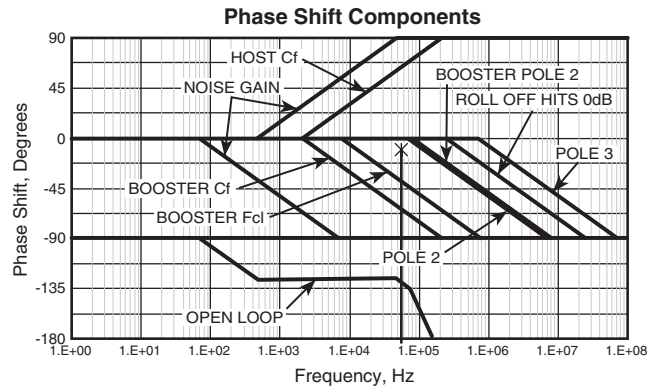

FIGURE 31.
**STEP 3:** Compensate composite op amp: Figure 30 (see next page) shows the selected 1/β plot to stabilize composite amplifier. Both noise gain compensation and feedback zero compensation are used to maximize stability. Figure 31 (see next page) plots the open loop phase for the composite amplifier yielding 50 degrees phase margin and good stability.